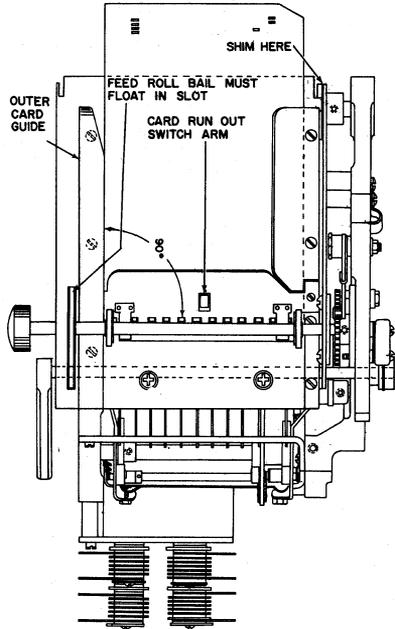

Figure 26
- The upper feed roll ball should be shimmed so that it floats in the card table slot (Figure 26). Loosen the set screws on the pivot shaft and slide the shaft to the left until shims can be installed or removed to obtain the adjustment. Reassemble and tighten the set screws.